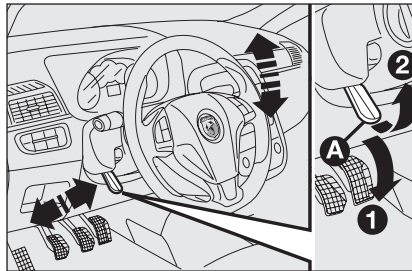

fig. 25
- release the lever **A**-fig. 25 pushing it forwards (position 1);